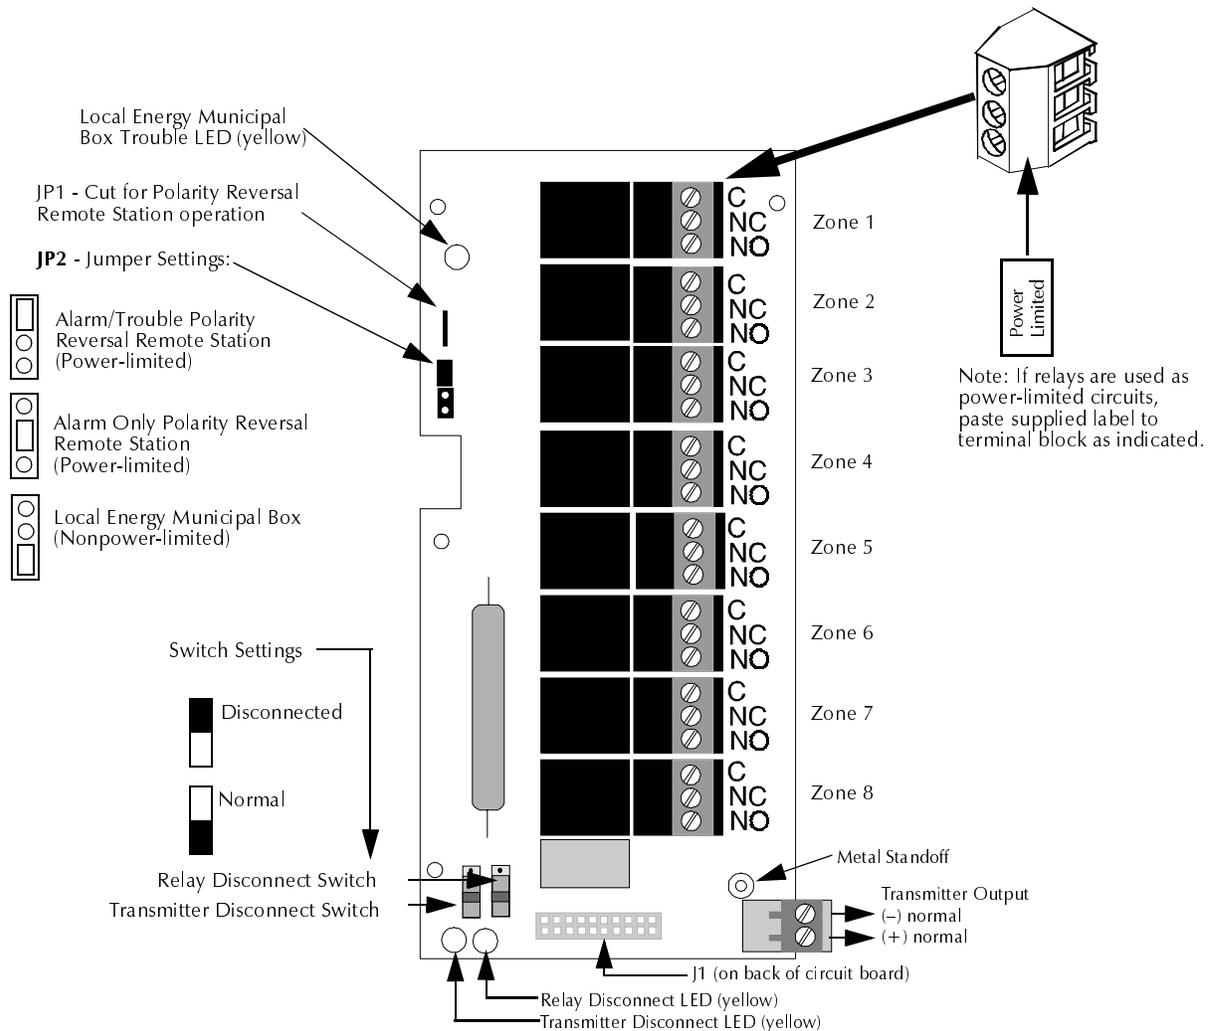

Figure 43 Fire•Lite RTM-8F Relay Transmitter Module Components
Figure 43 shows the components on the Fire•Lite RTM-8F board:
4. To prevent the yellow Trouble LED from turning on when the Transmitter Output is not used (no connections), move jumper JP2 to the Local Energy Municipal Box position (bottom two pins) and install a dummy load across the Transmitter Output terminals as shown below. The dummy load is a 1N4004 diode. The cathode must be connected to the terminal labeled '(-) normal' in Figure 43, and the anode must be connected to the terminal labeled '(+) normal'. Polarity must be observed or the Trouble LED will remain on.